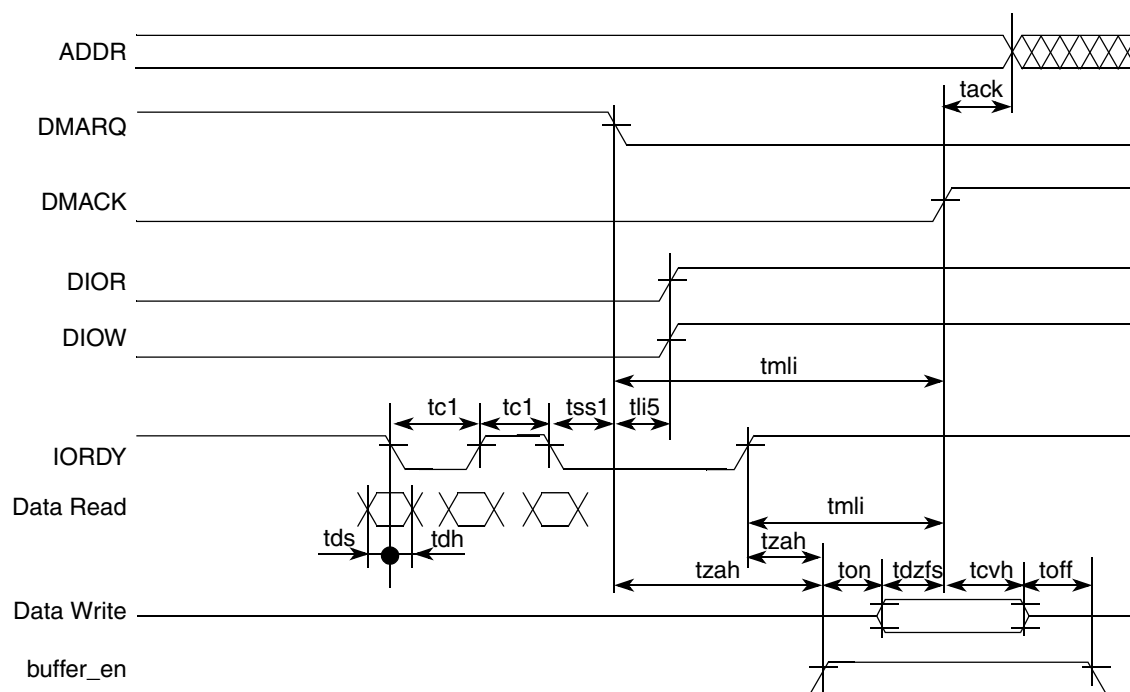

Figure 30. UDMA In Device Terminates Transfer
- Figure 30 gives timing for device terminating UDMA in transfer.